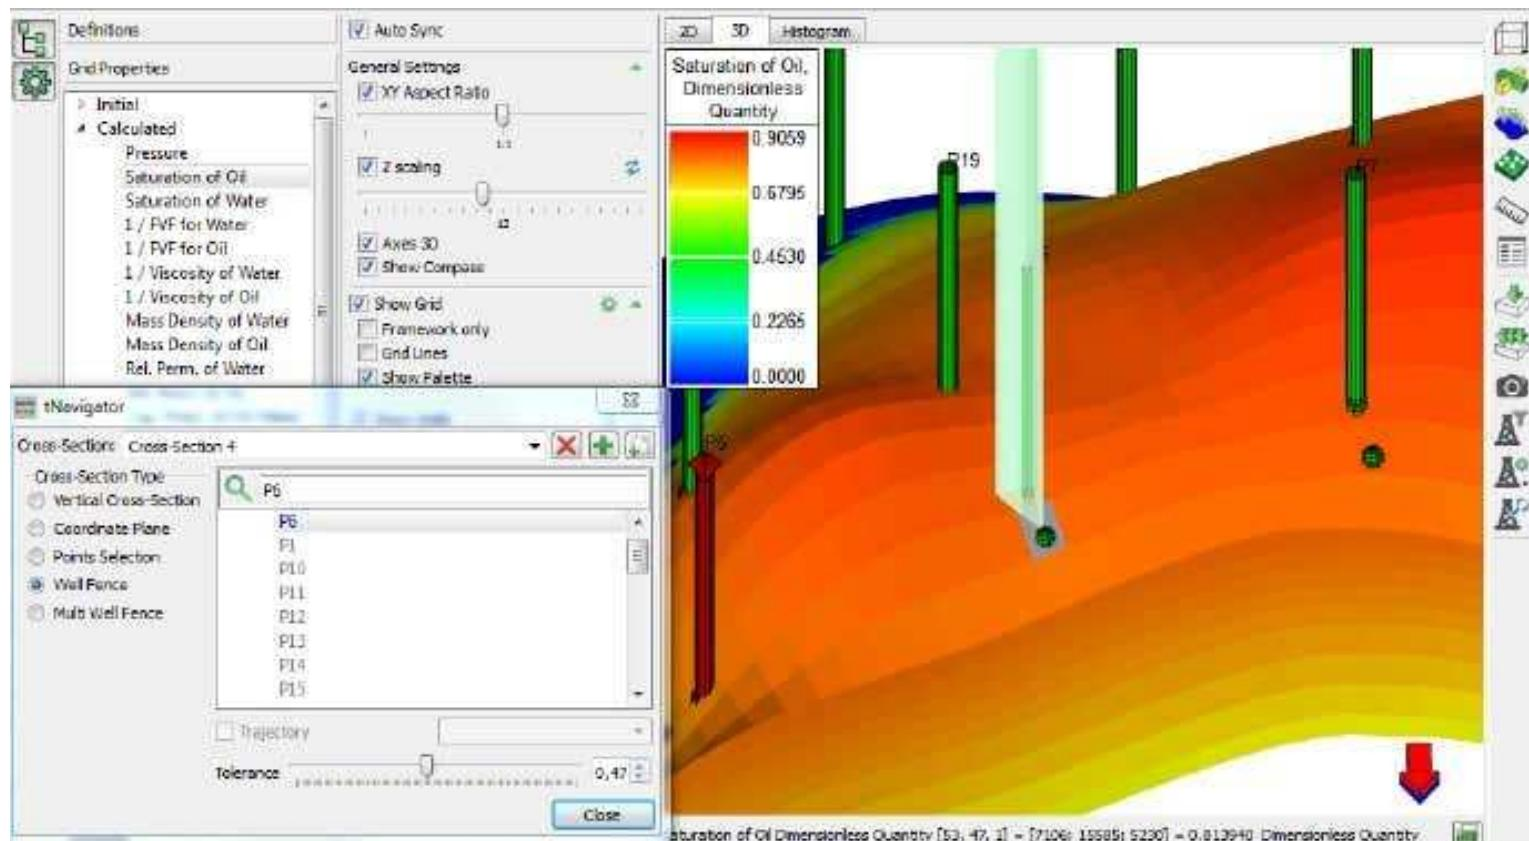

Figure 33. A well fence.
3. Select a well from the list. The selected well should be directional. Otherwise, if well is vertical this type of cross-section will be degenerate and will not be shown; figure 33.
8. **Fence Lines** is checked (figure 33). If this option is unchecked the vertical lines, corresponding to the fence points of cross-section, will be hidden.